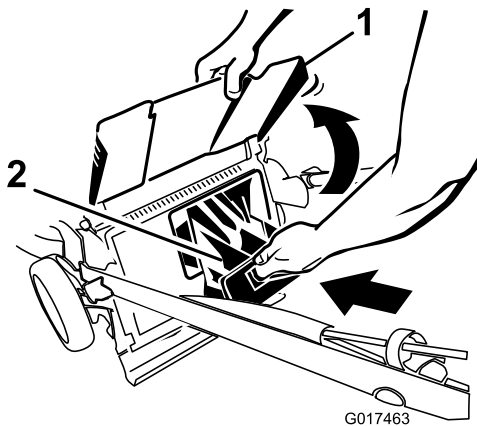

Figure 18
**Important:** Ensure that the rear discharge plug is locked in place. To lock the plug: Raise the discharge deflector (Figure 18), firmly push the plug in until it snaps into place behind the tabs, and rotate the lever on the plug to the left (Figure 19).